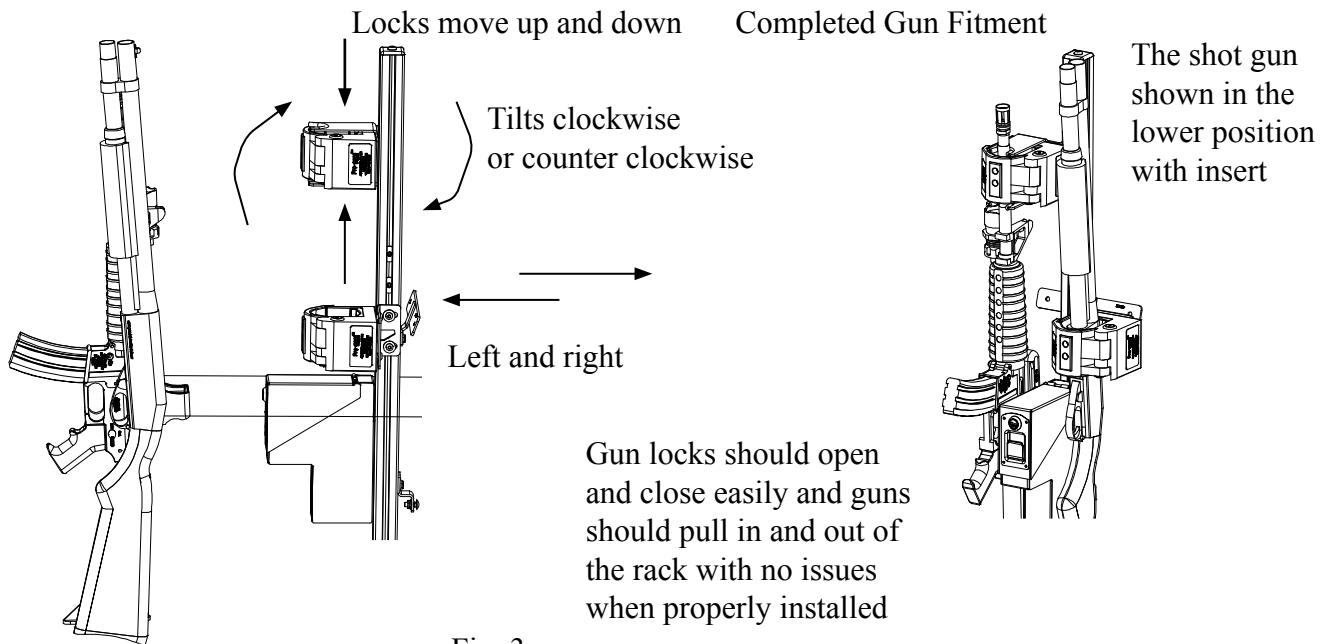

Fig. 3
- B. The brackets mounting the gun lock are designed to be loosened and adjusted in many directions to accommodate most guns. Fit each gun by loosening the bolts on the gun lock bracketry so the mounting bracket moves freely. Place your gun into the lock and in the desired position. Take a allen wrench to tighten locks in place. (See Fig. 3)